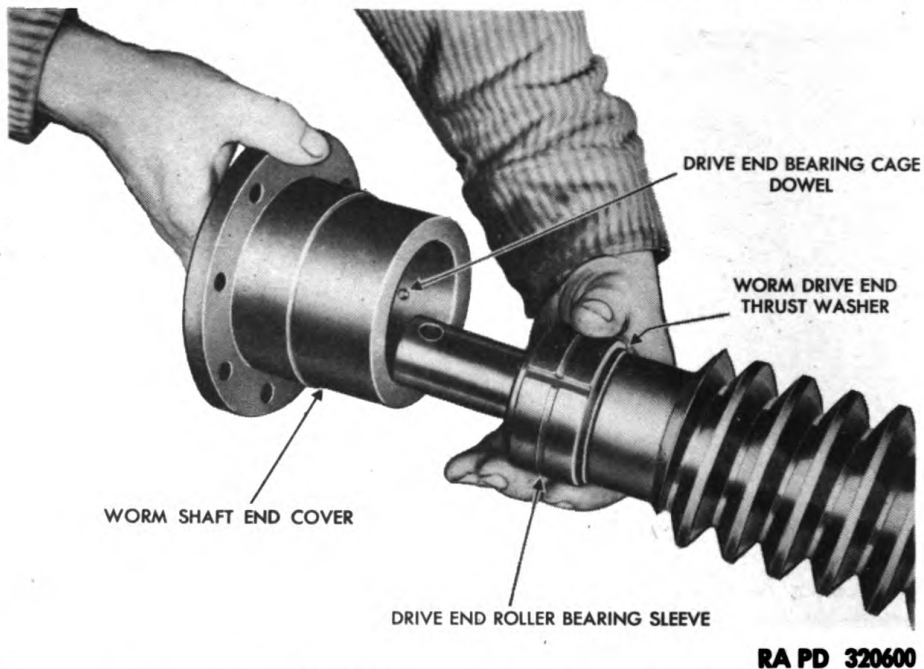

Figure 39 — Installing Worm Shaft End Cover
c. Install Worm Shaft End Cover (fig. 39). Slide the thrust washer onto drive end of worm with beveled edge toward the worm. Press on the drive and driven end roller bearing races. Set the drive end roller bearing in position on worm, and install the thrust washer with beveled edge and grooved side toward the drive end of the worm. Install the worm shaft end cover with bearing and thrust washer installed on the drive end of the worm.